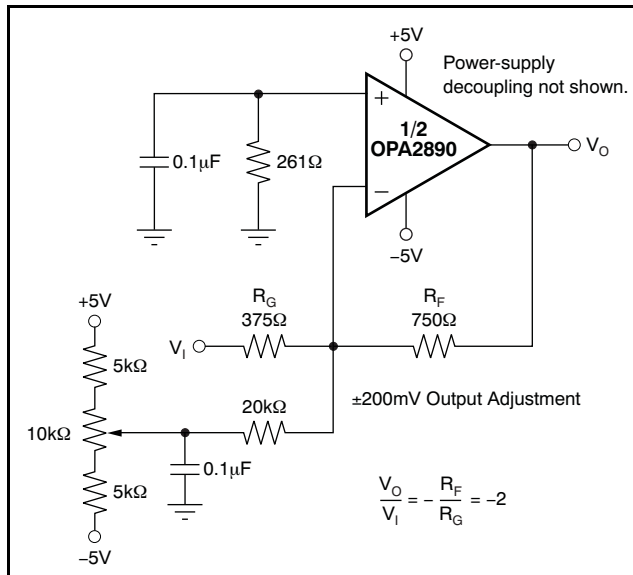

Figure 61. DC-Coupled, Inverting Gain of –2, with Offset Adjustment
A fine-scale output offset null, or dc operating point adjustment, is often required. Numerous techniques are available for introducing dc offset control into an op amp circuit. Most of these techniques eventually reduce to adding a dc current through the feedback resistor. In selecting an offset trim method, one key consideration is the impact on the desired signal path frequency response. If the signal path is intended to be noninverting, the offset control is best applied as an inverting summing signal to avoid interaction with the signal source. If the signal path is intended to be inverting, applying the offset control to the noninverting input may be considered. However, the dc offset voltage on the summing junction sets up a dc current back into the source that must be considered. Applying an offset adjustment to the inverting op amp input can change the noise gain and frequency response flatness. For a DC-coupled inverting amplifier, Figure 61 shows one example of an offset adjustment technique that has minimal impact on the signal frequency response. In this case, the dc offsetting current is brought into the inverting input node through resistor values that are much larger than the signal path resistors. This configuration ensures that the adjustment circuit has minimal effect on the loop gain and thus, the frequency response.
**d) Connections to other wideband devices** on the board may be made with short, direct traces or through onboard transmission lines. For short connections, consider the trace and the input to the next device as a lumped capacitive load. Relatively wide traces ( $50\text{mils}$  to  $100\text{mils}$ , or  $1.27\text{mm}$  to  $2.54\text{mm}$ ) should be used, preferably with ground and power planes opened up around them. Estimate the total capacitive load and set  $R_S$  from the plots of Figure 15 and Figure 36. Low parasitic capacitive loads ( $< 3\text{pF}$ ) may not need an  $R_S$  because the OPA2890 is nominally compensated to operate with a  $2\text{pF}$  parasitic load. Higher parasitic capacitive loads without an  $R_S$  are allowed as the signal gain increases (increasing the unloaded phase margin; see Figure 61). If a long trace is required, and the  $6\text{dB}$  signal loss intrinsic to a doubly-terminated transmission line is acceptable, implement a matched impedance transmission line using microstrip or stripline techniques (consult an ECL design handbook for microstrip and stripline layout techniques). A  $50\Omega$  environment is normally not necessary on board, and in fact, a higher impedance environment improves distortion as shown in the distortion versus load plots. With a characteristic board trace impedance defined (based on board material and trace dimensions), a matching series resistor into the trace from the output of the OPA2890 is used as well as a terminating shunt resistor at the input of the destination device. Remember also that the terminating impedance is the parallel combination of the shunt resistor and the input impedance of the destination device; this total effective impedance should be set to match the trace impedance.